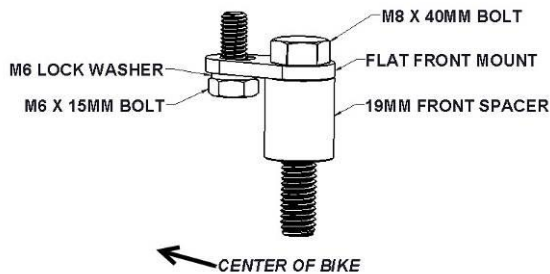

FIG. 1
2. PUT A M8 X 40MM BOLT THROUGH THE LARGE HOLE IN THE FLAT FRONT MOUNT. THEN SLIDE A 19MM LONG SPACER OVER THE BOLT. SEE FIG. 1